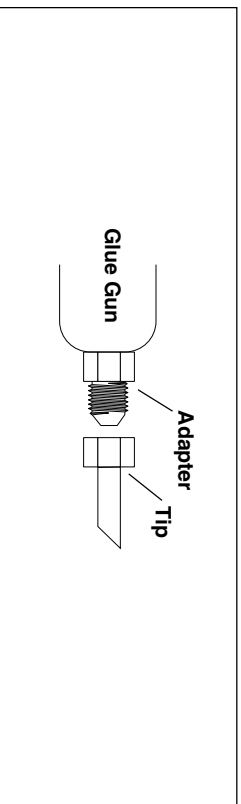

Figure 3. Glue gun ($\frac{3}{8}$ "-16 external threads) and tip ($\frac{3}{8}$ "-16 internal threads).
2. If your glue gun and tip look like Figure 3, then you need to remove the existing adapter and install the lock nut supplied with the No. 3630 Adapter Valve with Lock Nut. To do this, remove the adapter from the glue gun. (If the gun has been used, you need to turn it on to soften the glue.) Then, being careful not to touch any hot area of the gun, use a wrench to remove the adapter and allow excess glue to drain from the gun. Allow the adapter to cool so it can be handled before continuing.